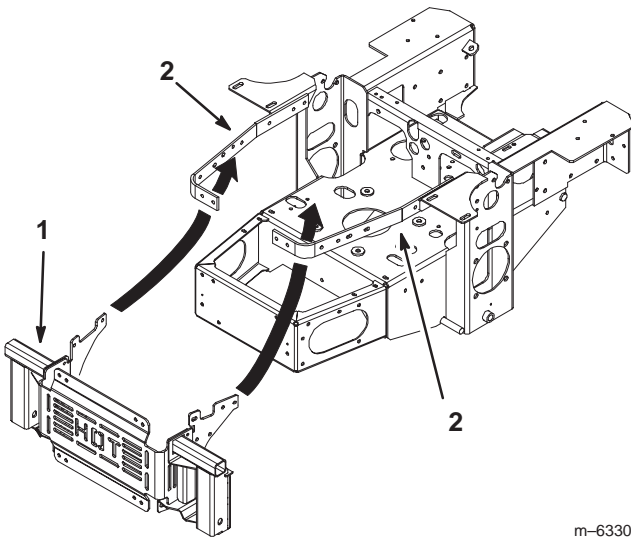

Figure 6
1. Place the bagger mounting assembly up between the two engine straps (Fig. 6).